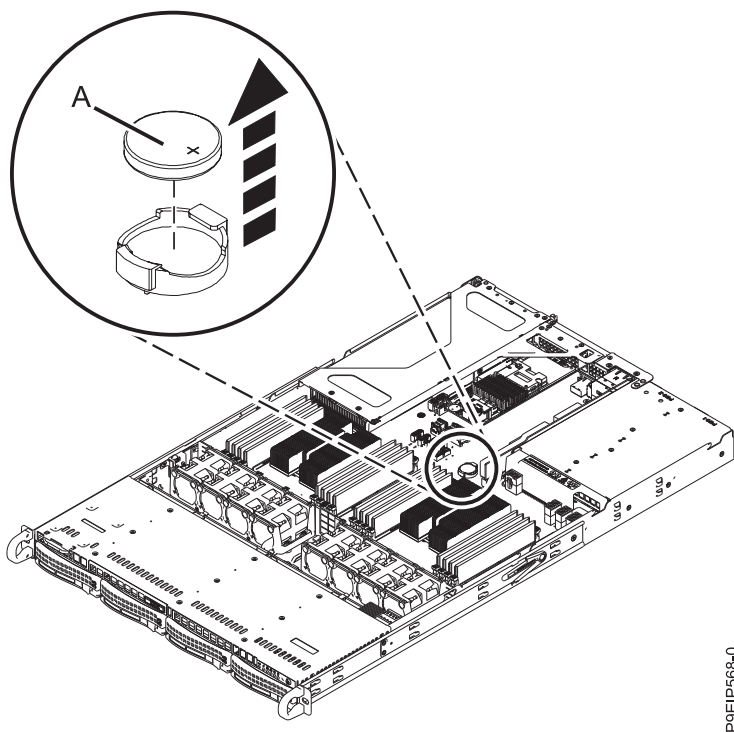

Figure 80. Time-of-day battery location
3. Remove the time-of-day battery (A) as shown in Figure 80. When you remove the battery, do not use a metallic tool to disengage it from its slot.